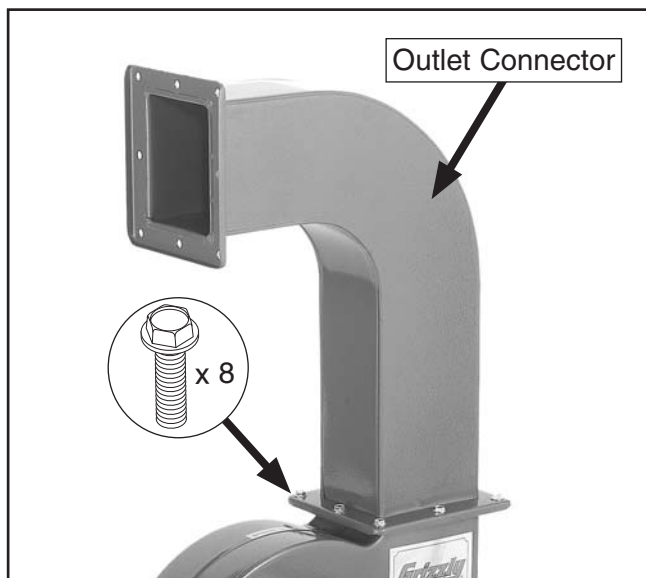

Figure 14. Outlet connector installed.
5. Secure the outlet connector to the impeller outlet with (8) $\frac{5}{16}$ -18 x $\frac{1}{2}$ " flange bolts, as shown in **Figure 14**.